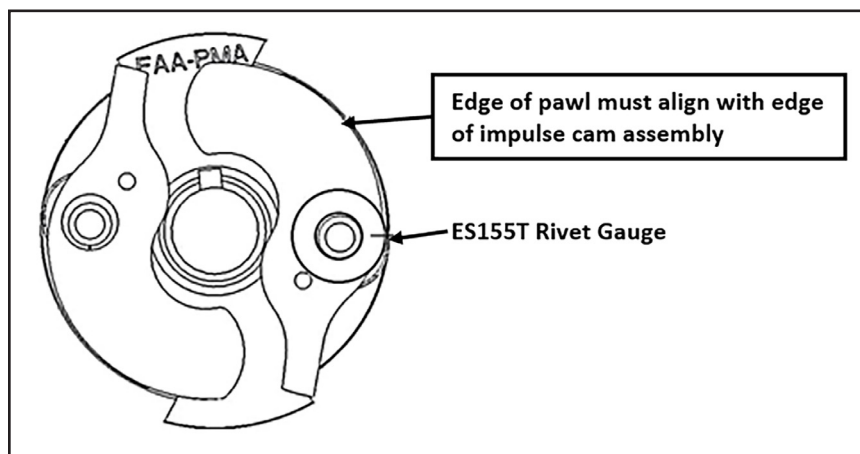

Figure 4.1 – Inspecting Pawls for Wear
- 2) While holding the ES155T Pawl Wear Go/No Go Gauge in place, align the outer edge radius of the impulse pawl to align with the outer edge radius of the impulse assembly. Refer to Figure 4.1.